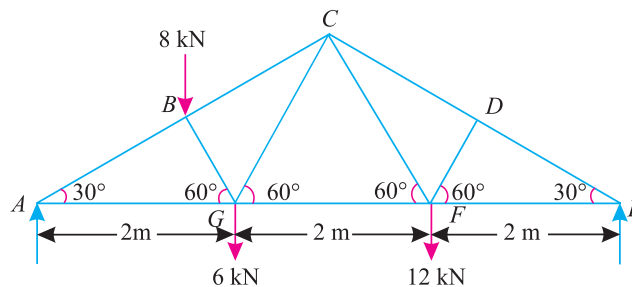

Fig. 13.15.
**Example 13.4.** An inclined truss shown in Fig 13.15 is loaded as shown.